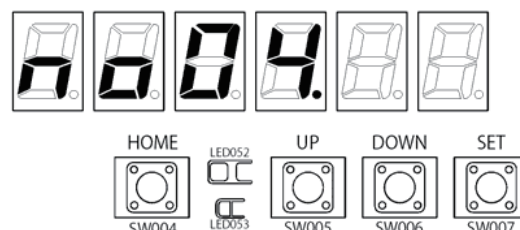

Figure 9
❷ Next, press the UP (SW005) or DOWN (SW006) key to select menu item number “ ㄱ ㄴ ㄷ ㅅ ” (Figure 9)